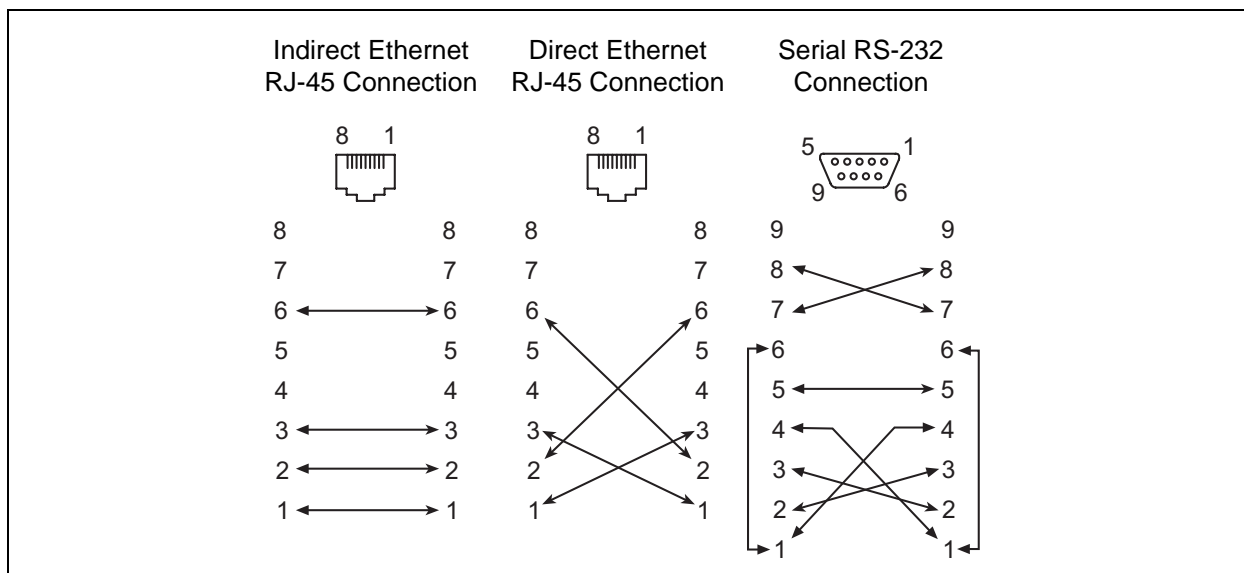

Figure 4-6. Workstation Cable Connections
- Indirect Ethernet connection from the management workstation to the switch RJ-45 Ethernet connector through an Ethernet switch or a hub. This requires a 10/100 Base-T straight cable as shown in Figure 4-6.
- Direct Ethernet connection from the management workstation to the switch RJ-45 Ethernet connector. This requires a 10/100 Base-T cross-over cable as shown in Figure 4-6.
- Serial port connection from the management workstation to the switch RS-232 serial port connector. This requires a null modem F/F DB9 cable as shown in Figure 4-6.